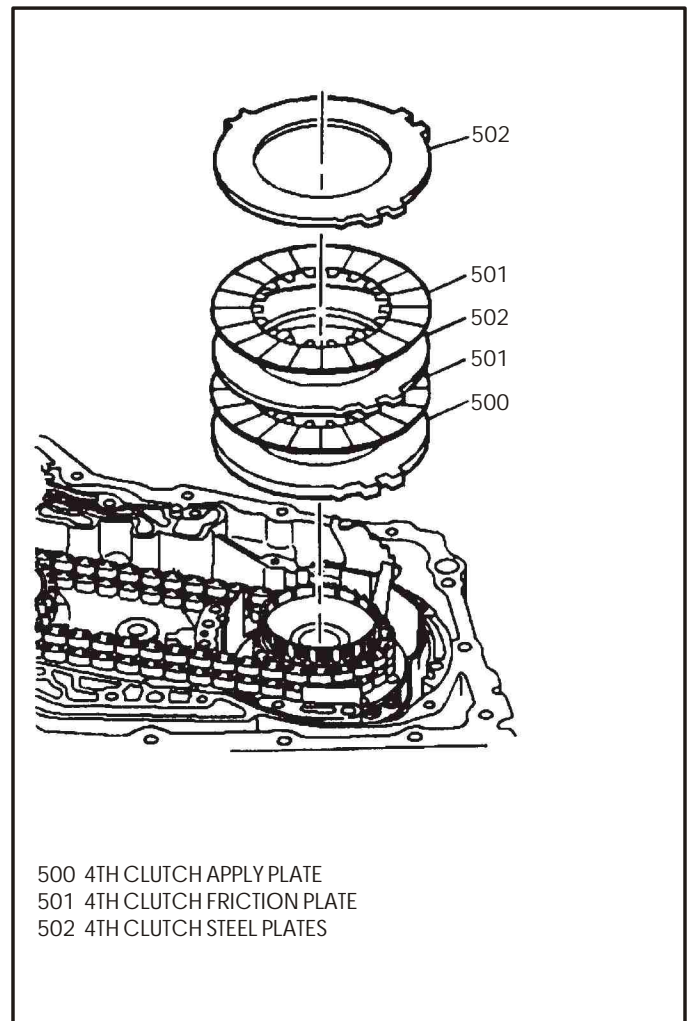

Figure 174
76. Install the 4th clutch apply plate onto the 4th clutch piston, as shown in Figure 174.
77. Install a 4th clutch friction plate on the clutch hub against the apply plate (See Figure 174).
78. Install the remaining 4th clutch plates as shown in Figure 174.
79. There are two 4th clutch friction plates and two 4th clutch steel plates in this unit, as shown in Figure 174.